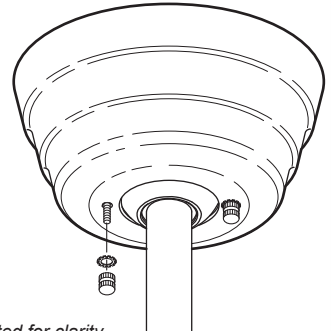

Figure 1b
- **Receiver:** Slide code switches to the same positions as set on your transmitter (Figure 1b).
2. Securely attach the Canopy Housing to the Hanger Bracket using the external lockwashers and knurled knobs supplied with your fan (Figure 1b).